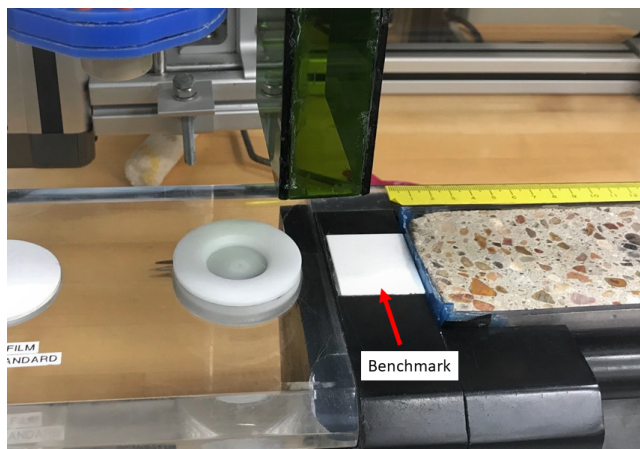

Figure 6. Correct core position.
1. Place section in the core tray. Make sure the section is oriented blue endcap towards calibration standards/benchmark, and is flush against the benchmark (Figure 6).